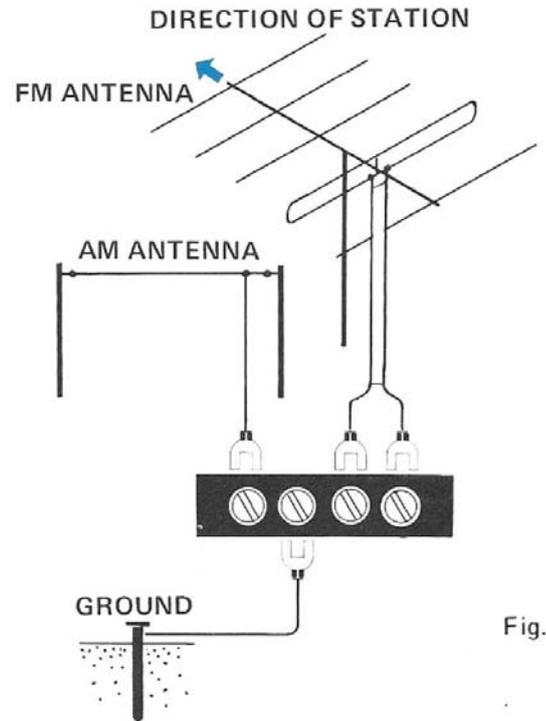

Fig. 4
- If orientation of the T-type antenna does not eliminate background noise, connect an outdoor antenna to the antenna terminals shown in Fig. 4. In lieu of an antenna, a combination FM/TV antenna may be used.
- If use of the lead antenna does not give satisfying results, erect an outdoor antenna and connect it as shown in Fig. 4. Special construction is not required: Vinyl-insulated wire may be stretched between two masts or other supports.